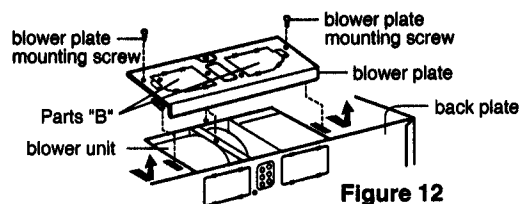

Figure 12
1. Remove two blower plate screws. Remove the blower plate from cabinet. See Figure 12.